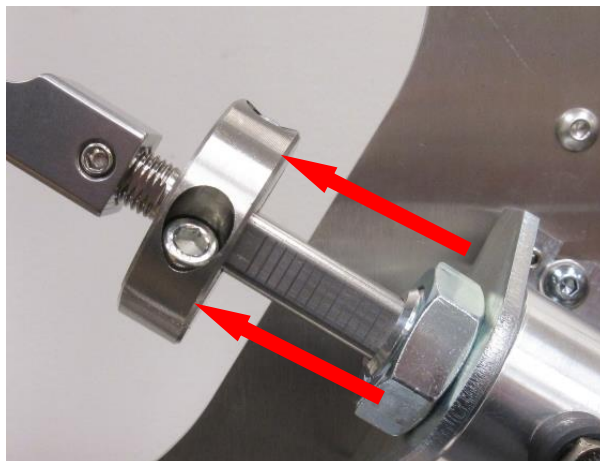

Figure 5
- Using a 3/16" hex wrench, loosen the two (2) bolts on all four (4) stop collars and slide them forward on the cylinder shaft to where the threads start. Retighten the bolts on all four (4) stop collars using the 3/16" hex wrench. **(Figure 5)**